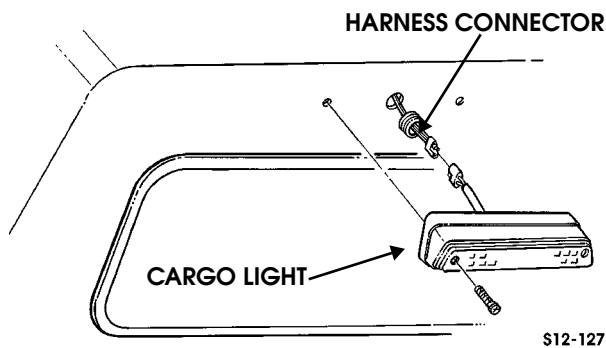

Figure 12-110: Cargo Light
- Remove two screws and cargo light from rear bulkhead (Figure 12-110).
4. Connect roof harness connector to cargo light, if removed (Figure 12-110).